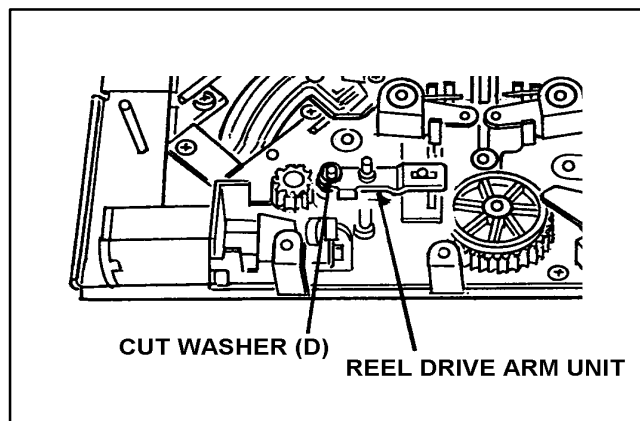

Figure 1-29-2
6. Remove the Cut Washer (D) and remove the Reel Drive Arm Unit as shown in Figure 1-29-2.
7. Remove the Supply and Take Up Reel Rotor Unit. (Refer to item 1-5)
8. Remove the 2 Cut Washers (E) and remove the Supply and Take Up Base Drive Arm Unit.
9. Remove the 2 Cut Washers (F) and remove the Slide Rod Unit.